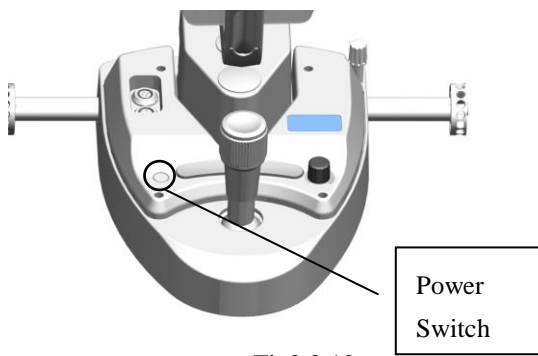

Fig2.2.10
- The power supply can work normally from 100V to 240V. The power switch (see Figure 2.2.10) can be turned on with one short-press, short-pressed again to hold, and long press for 3 seconds to turn off all power.